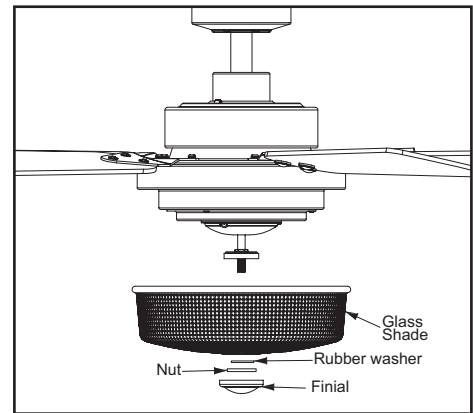

Figure 17
3. Remove the rubber gasket, nut and finial from the threaded nipple of the light kit fitter assembly. Position the glass bowl over the threaded nipple. Re-install the rubber gasket, nut and finial to the threaded nipple to secure the glass bowl properly. (Figure 17)